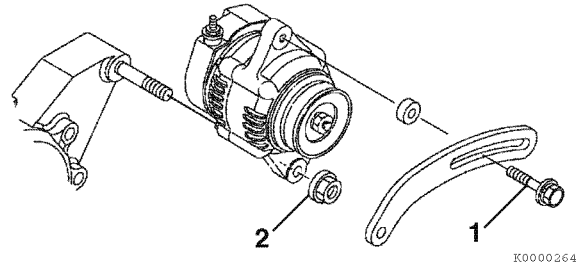

Figure 12-19
1. Position the alternator on the gear case. Loosely reinstall the nut (2, **Figure 12-19**) on the gear case stud and the V-belt adjuster bolt (1, **Figure 12-19**).